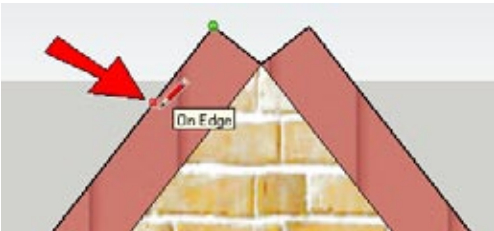

Figure 5-5
5. With your cursor, hover on the edge indicated in Figure 5-5. You should see the *On Edge* inference.